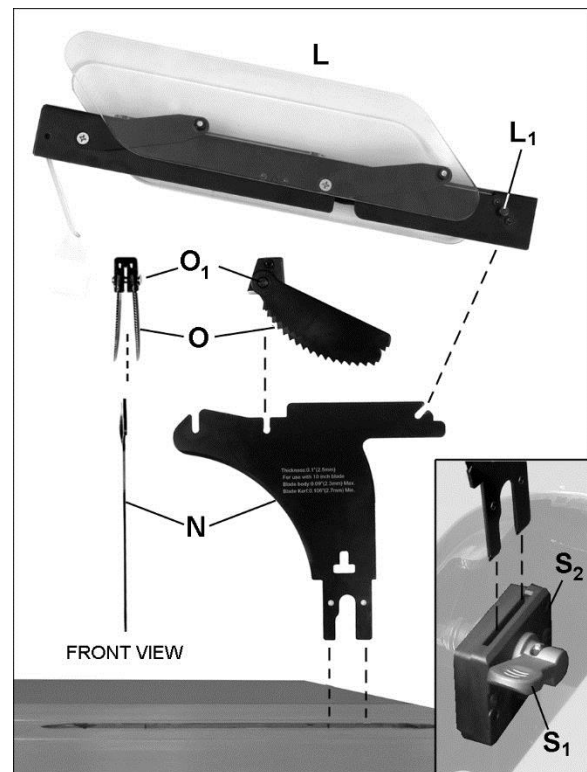

Figure 6-10: installing guard assembly
See Figure 6-10.
2. Position anti-kickback pawl assembly (O, Figure 6-10) so that angled side of pawl block faces toward front of saw, as shown.
3. Lower pawl assembly onto center notch of riving knife, with pawls straddling knife. Push and hold button on pawl block (O₁, Figure 6-10), and push pawl block down until it securely engages in notch.